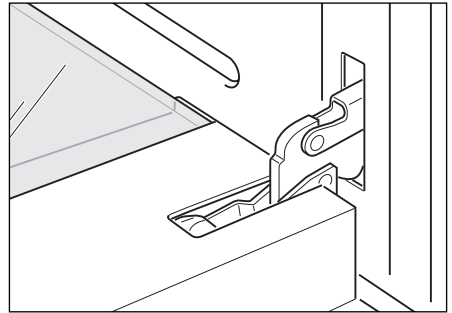

Fig.47a
- Fully open the oven door (Fig. 47a).
- 1 **Make sure the door is locked open** (see Figs 47a - 47c).